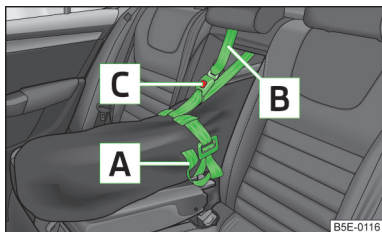

Fig. 75
- Tighten the strap **A** on the free end around the skis in front of the bindings » Fig. 75.
- After placing skis into the through-loading bag, you must secure the bag with the securing strap **B** » Fig. 75.